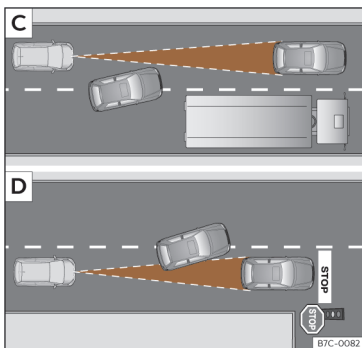

Fig. 113 C) Vehicle changing lanes. D) One vehicle turning and another stationary.
- Vehicles that move into your lane, a short distance from your vehicle >>> Fig. 113 C).
The ACC may not react to stationary vehicles. If, for example, a vehicle detected by the ACC turns or moves over and there is a stationary vehicle in front of it, the ACC will not react to the second vehicle >>> Fig. 113 D).